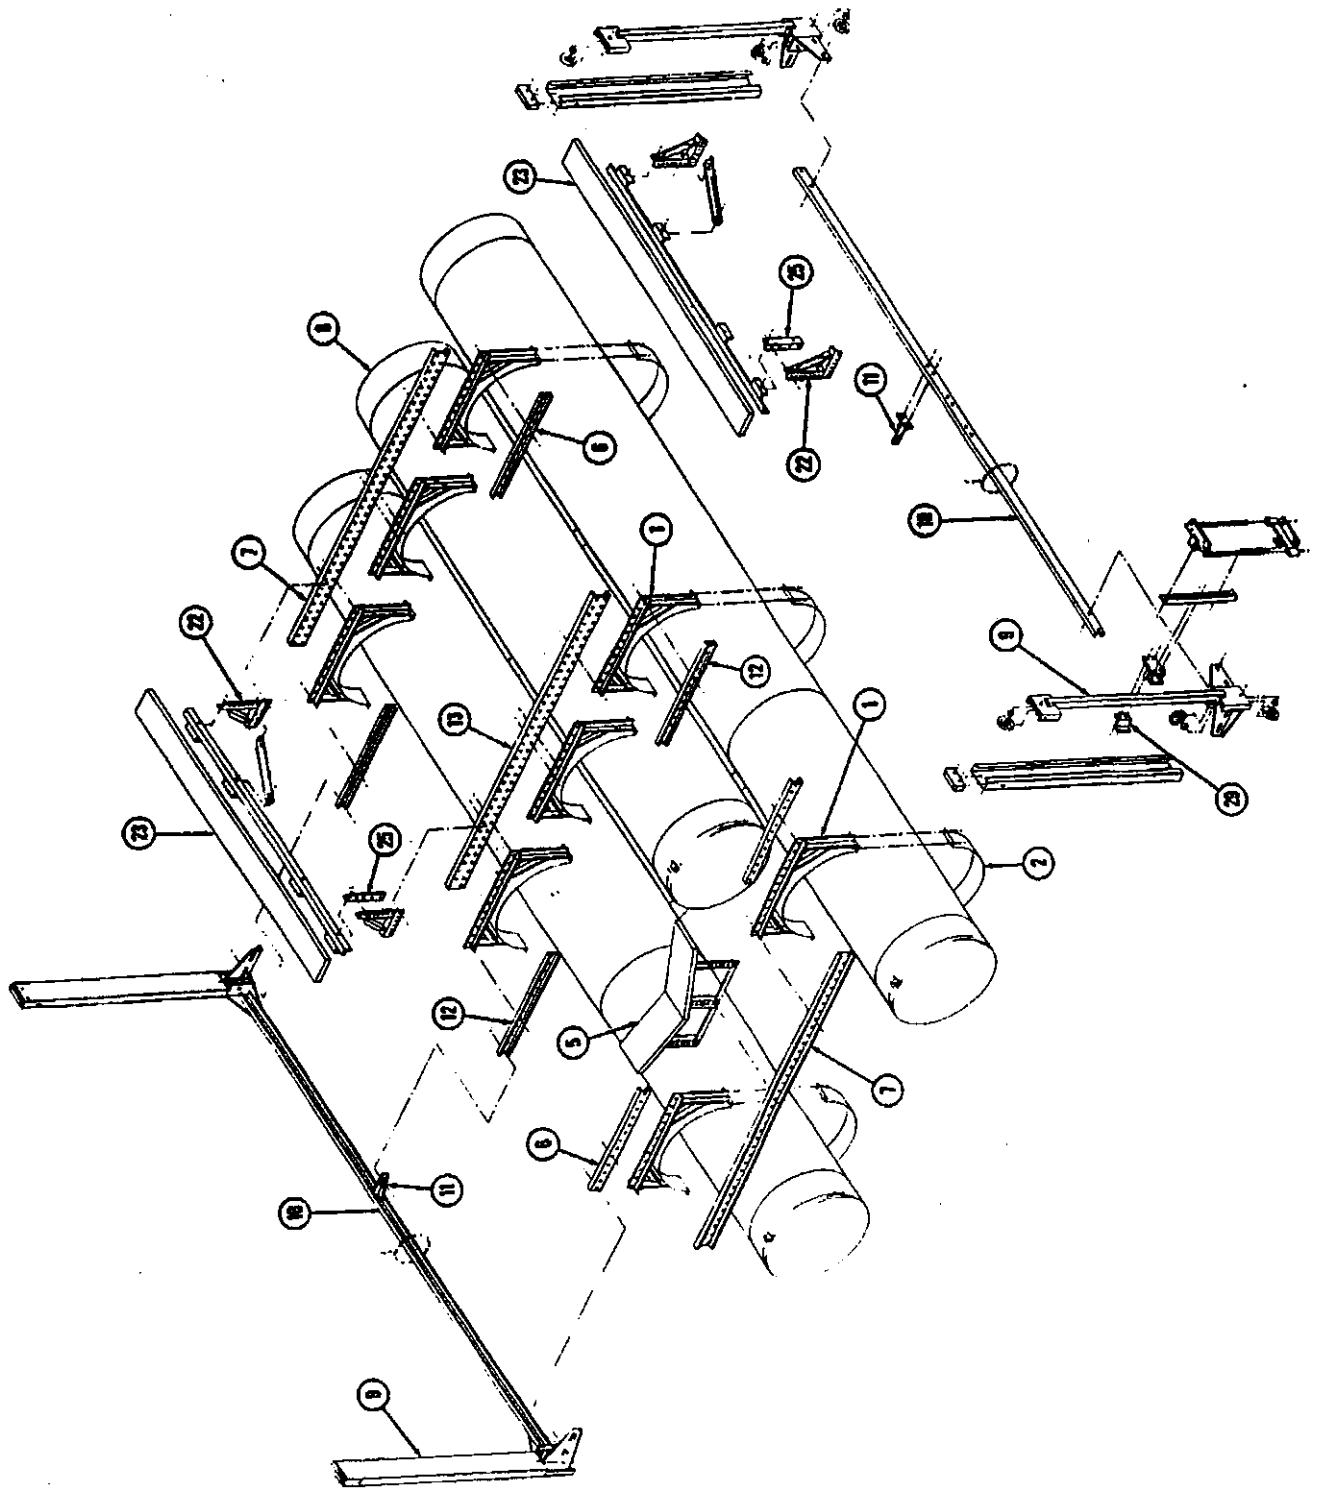

FIGURE 5. 12000C/15000C EXPLODED VIEW
22. (10) Sandwich the tank bracket (1) flanges between the channels (14) and (15) and install three 1/2 x 1 1/2 inch bolts, nuts, and lockwashers through each tank bracket and one in each end of the channel overlap. Do not tighten.
23. (12,15) Install a center channel mount (11) to each side channel (10) to align with the middle tank brackets (1). Refer to Figure 5 and note that both mounts face aft. Attach each with two 1/2 x 1 1/2 inch bolts, nuts, and lockwashers. Do not tighten.
24. (12,15) Attach a keel spanner (12) to each mount with the flanges forward. Attach each with one 1/2 x 1 1/2 inch bolt, nut, and lockwasher. Do not tighten.
25. (12,15) Install an end channel (13), across the tank brackets (1) with the flanges toward the rear. Install three 1/2 x 1 1/2 inch bolts, nuts, and lockwashers through each tank bracket (1) and the channels (12). Do not tighten.